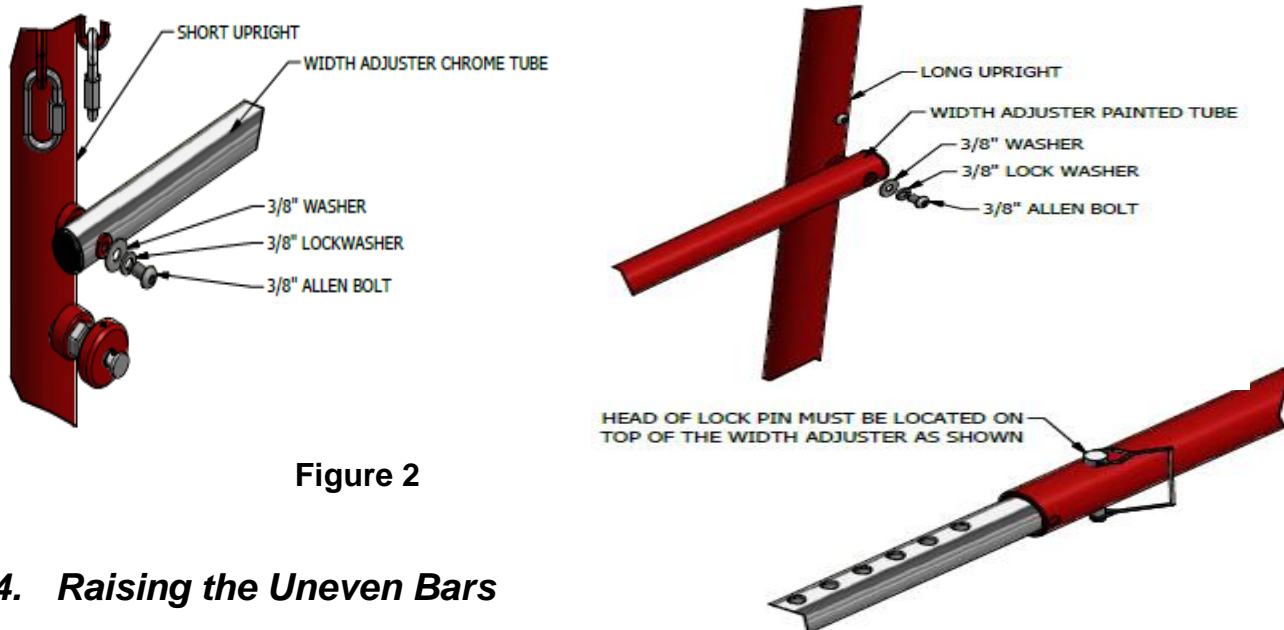

Figure 2
1. Unscrew the width adjusters mounting hardware from the studs on the uprights. Install the width adjuster as shown on Fig. 2 below, and secure with mounting hardware.